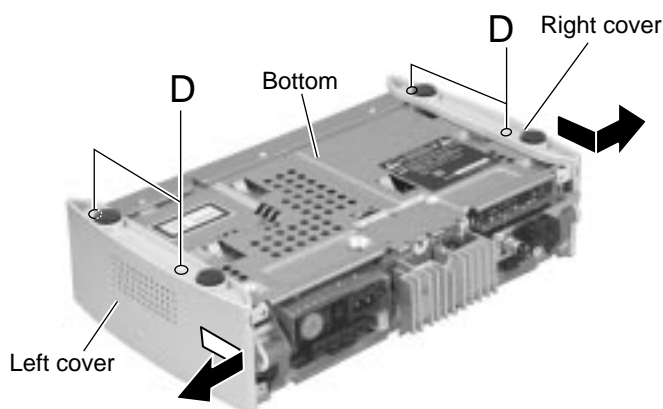

Fig.3
■ Removing the right and left covers (See Fig.3)